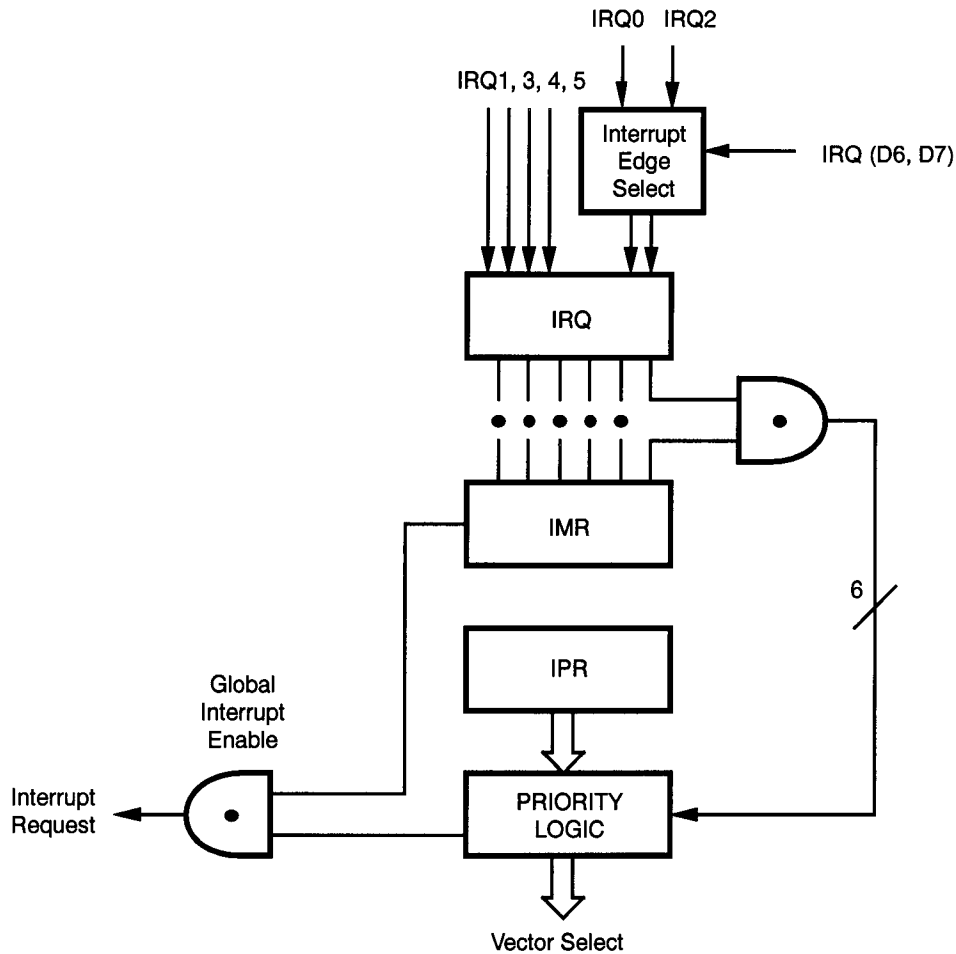

Figure 23. Interrupt Block Diagram
**Counter/Timers.** There are two 8-bit programmable counter/timers (T0-T1), each driven by its own 6-bit programmable prescaler. The T1 prescaler is driven by internal or external clock sources; however, the T0 prescaler is driven by the internal clock only (Figure 23).
**Interrupts.** The Z86C33/43 has six different interrupts from six different sources. These interrupts are maskable, prioritized (Figure 23) and the six sources are divided as follows: four sources are claimed by Port 3 lines P33-P30, and two in counter/timers (Table 6). The Interrupt Mask